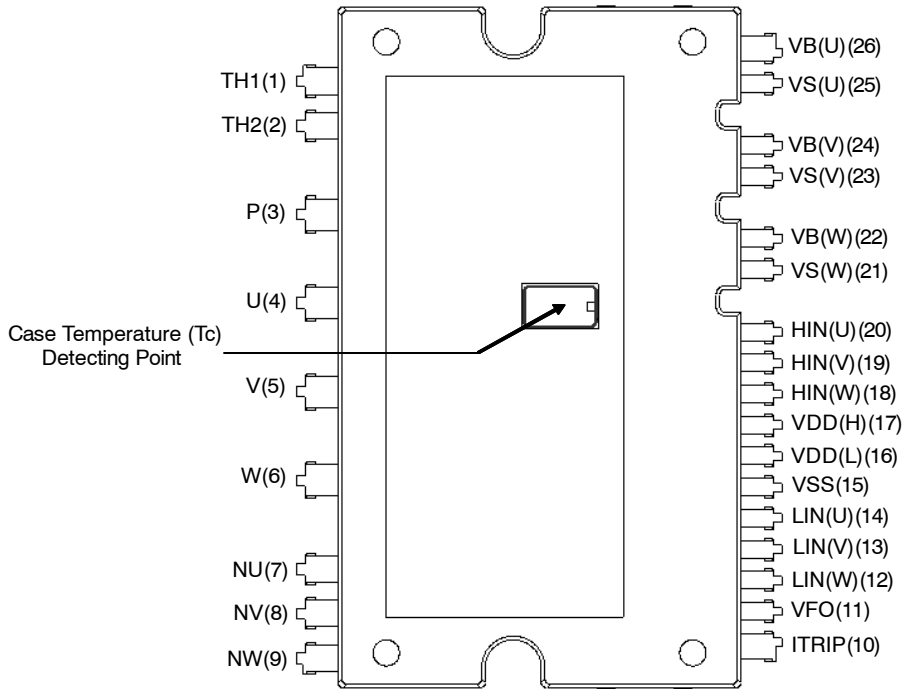

Figure 1. Top View
5. For the measurement point of case temperature T_c, please refer to Figure 1.